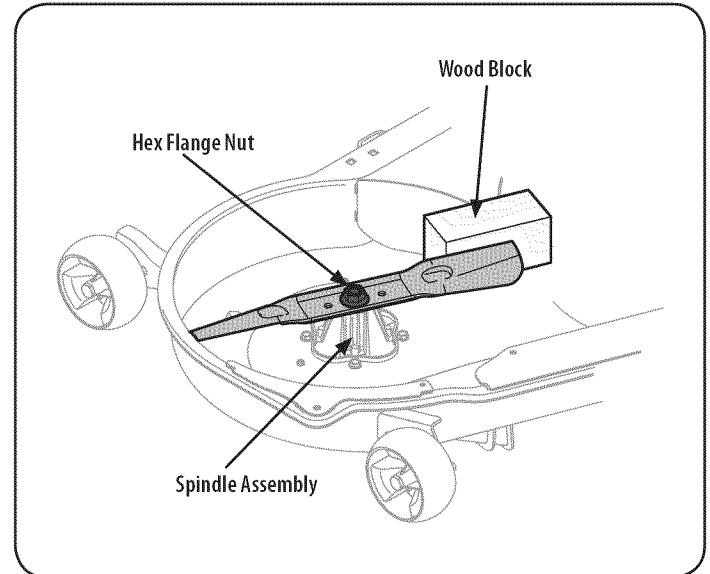

Figure 38
- Use a $1\frac{5}{16}$ " wrench to hold the hex nut on top of the spindle assembly when loosening the hex nut securing the blade. A block of wood may be placed between the deck housing and the cutting edge of the blade to help in breaking loose the hex nut securing the blade. See Figure 38.